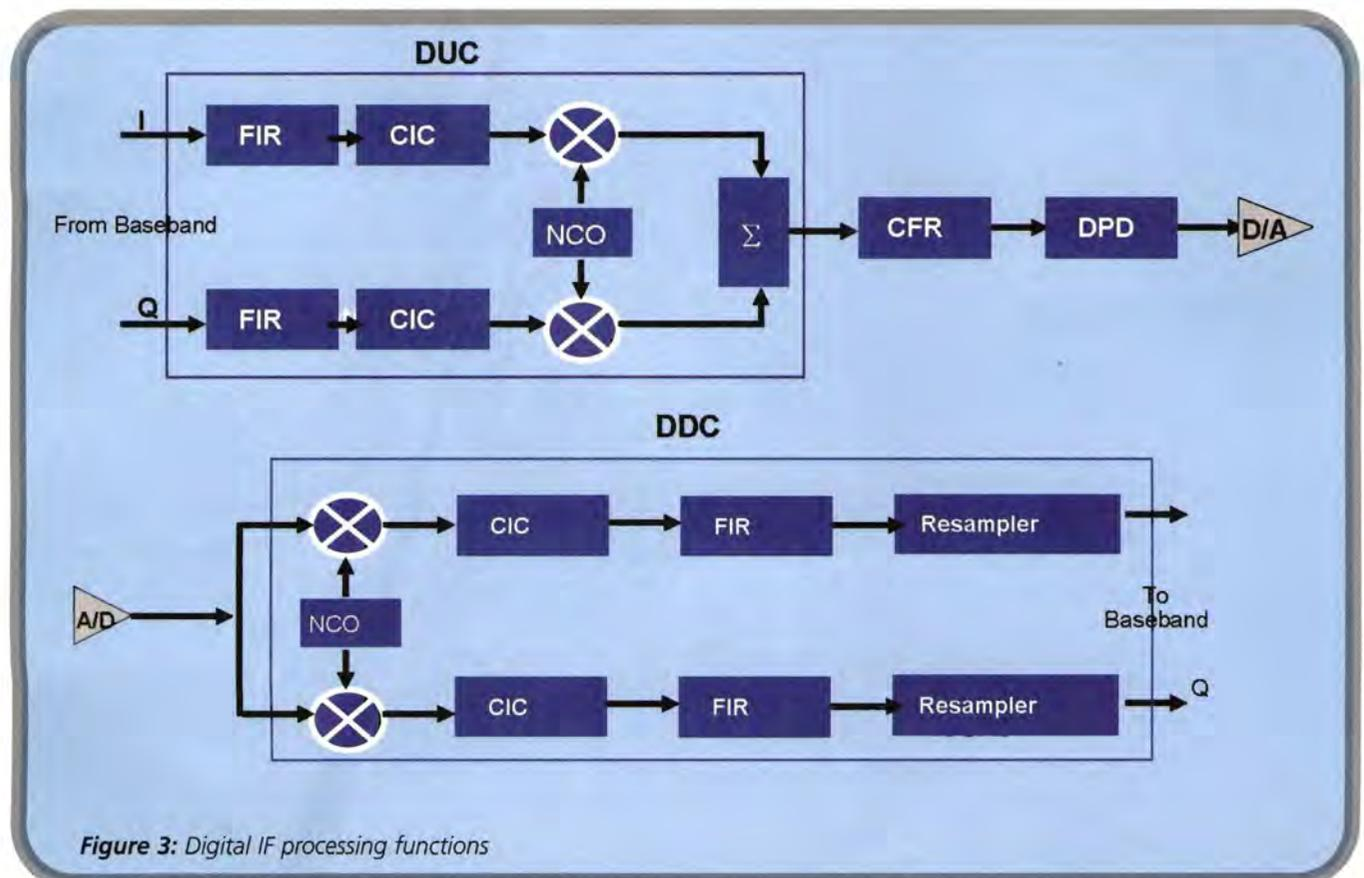

Figure 3: Digital IF processing functions
Figure 3 shows data from a baseband channel card being sent to a RF card for subsequent digital Intermediate Frequency (IF) processing, including Digital Up-Conversion (DUC), CFR and DPD. Digital IF extends the scope of digital signal processing beyond the baseband domain to the antenna – to the RF domain. This increases the flexibility of the system while reducing manufacturing costs. Moreover, digital frequency conversion provides greater flexibility and higher performance (in terms of attenuation and selectivity) than traditional analogue techniques.